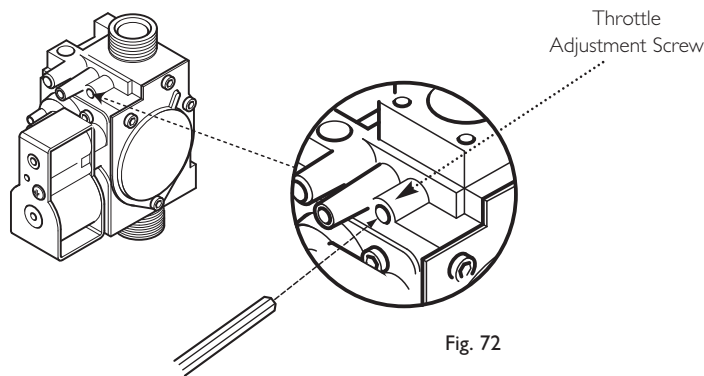

Fig. 72
**NOTE:** To assist the boiler to light prior to final setting, use a suitable hexagon key to wind out the throttle adjustment screw until it is flush with the valve body, then turn the screw 4 full turns clockwise (Fig. 72). If the boiler will not light, or the correct CO2 cannot be achieved call Baxi Customer Support 0344 871 1525.